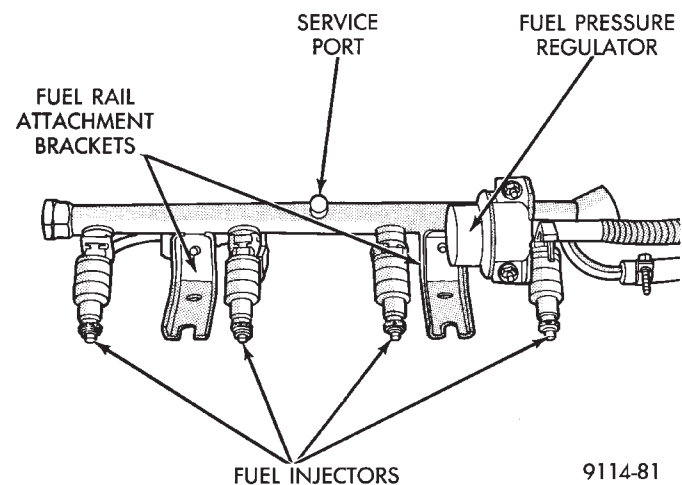

Fig. 11 Servicing Fuel Injectors
(2) Position fuel rail assembly so that the fuel injectors are easily accessible (Fig. 11).
(3) Remove injector lock ring off the fuel rail and injector. Pull injector straight out of fuel rail receiver cup (Fig. 11).
(4) Check injector O-ring for damage. If O-ring is damaged, it must be replaced. If injector is reused, a protective cap must be installed on the injector tip to prevent damage.
(5) Repeat for remaining injectors.
(1) Before installing an injector, the rubber O-ring must be lubricated with a drop of clean engine oil to aid in installation.
(2) Being careful not to damage the O-ring, install injector top end into fuel rail receiver cup.
(3) Install injector lock ring by sliding open end into slot of the injector and onto the receiver cup ridge into the side slots of ring (Fig. 11).
(4) Repeat steps for remaining injectors.
(5) Install injector wiring harness to injectors. Place harness into retaining clips.